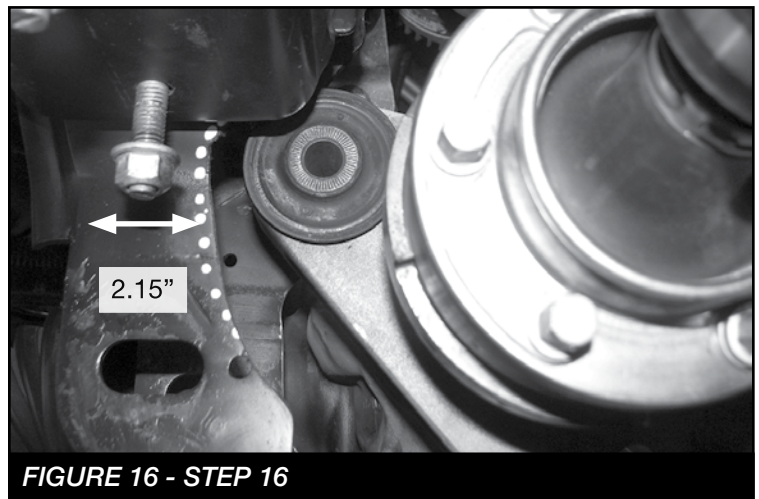

FIGURE 16 - STEP 16
16. Still working on the driver side rear lower control arm pocket, locate the tab on the pocket towards the rear of the vehicle. You will need to cut and sand a radius in the rear side of the pocket in order to clear the differential housing. **SEE FIGURE 16**